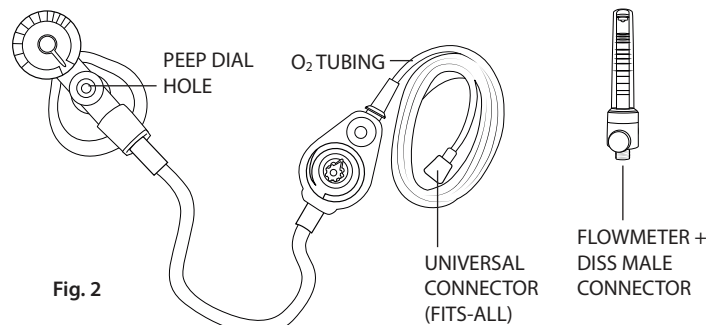

Fig. 2
1. Connect the inspiratory pressure controller with the O₂ tubing provided to the gas source via the red universal connector (Fig. 2). If the nut/nipple connector is missing from the flowmeter, push the universal connector straight on to the DISS male connector. Screwing on the universal connector is not necessary.